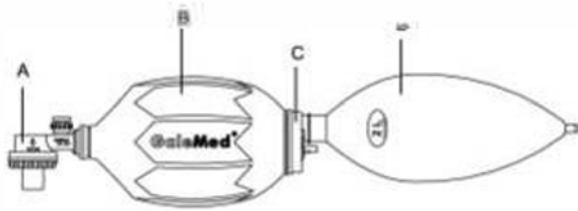

Figure 1. The MR100™ Plus Manual Resuscitator
The MR-100™ Plus Manual Resuscitator consists of four major components (figure 1): non rebreathing valve assembly (A), silicone bag (B), intake valve (C), and reservoir (D), Part D should be removed if supplemental oxygen is not to be supplied from an external gas source.